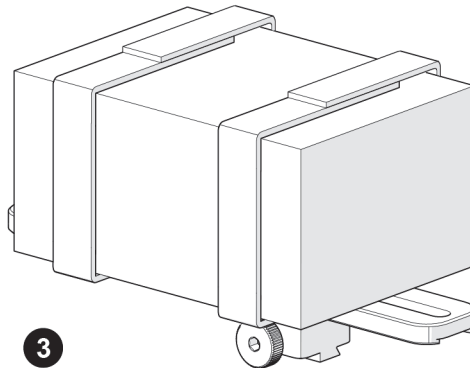

Figure 2-62 Attach straps
3. Secure the preamp to the bracket by attaching each side of the hook and loop straps (see Figure 2-62 on page 78).